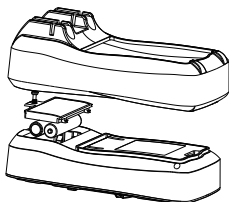
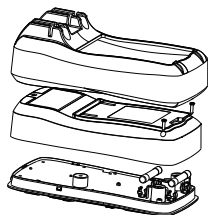

Figure 8a
Figure 8b
2. Replacements (see Figure 8a, Figure 8b)